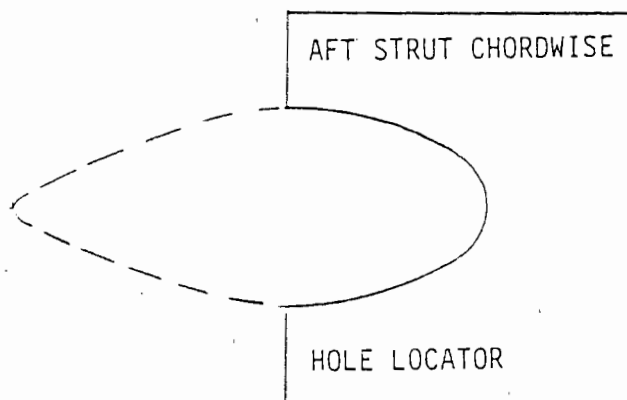

FIGURE 026-02
2. Cut out a Lexan template (use the thin Lexan) as shown in Figure 026-02. This will be used to locate the holes chordwise on the struts.